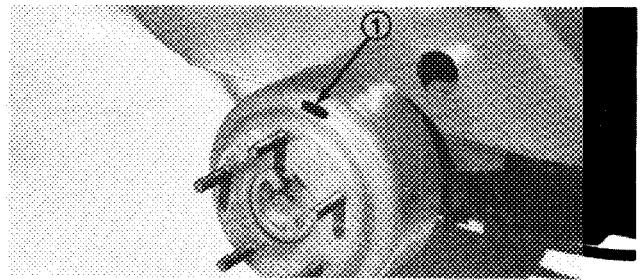
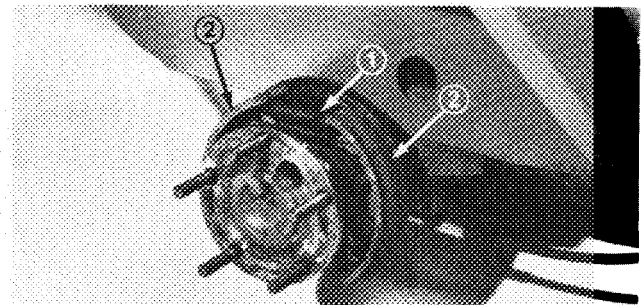

Figure 24
Figure 25
6. Remove wheel nuts and slide wheel and tire assembly off studs. Rotate brake drum until adjusting slot is at top and centered over star-nut that adjusts brake shoes (Fig. 24).
7. Using a brake adjusting tool or screwdriver rotate star-nut (Fig. 25) until brake drum (Fig. 24) locks because of outward pressure of brake shoes (Fig. 25).